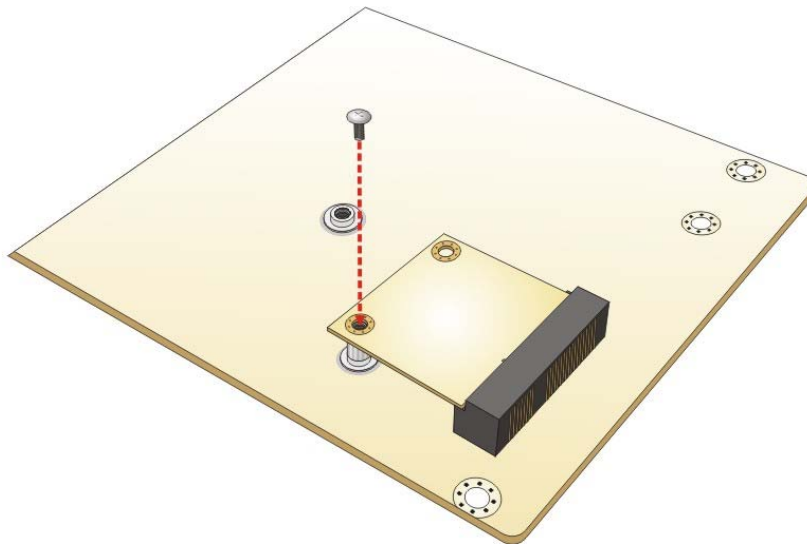

Figure 4-8: Securing the Half-size PCIe Mini Card
Step 5: Secure the half-size PCIe Mini card with the retention screw previously removed (Figure 4-8).